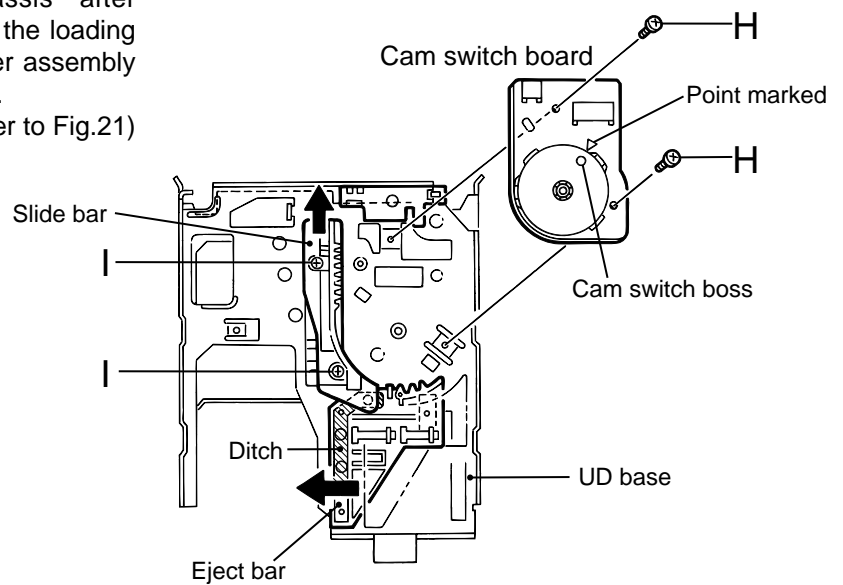

Fig.20
2. Reattach the slide bar to the loading mechanism chassis while fitting the boss marked k to the eject bar slot. (Fig.20)
3. Slide the slide bar and the eject bar in the direction of the arrow in Fig.20 and reattach the cartridge holder assembly using the two screws I.
(Fig.20 and 21)